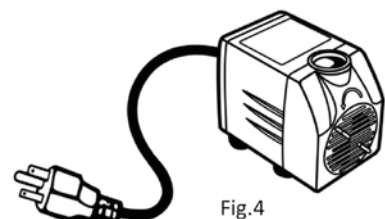

Fig.4
6. If the pump runs with low or high water circulation Check and adjust the regulator dial or slide on the front of the pump. Adjust the dial/slide towards (+) to increase water flow or towards (-) to decrease water flow. (Fig. 4)